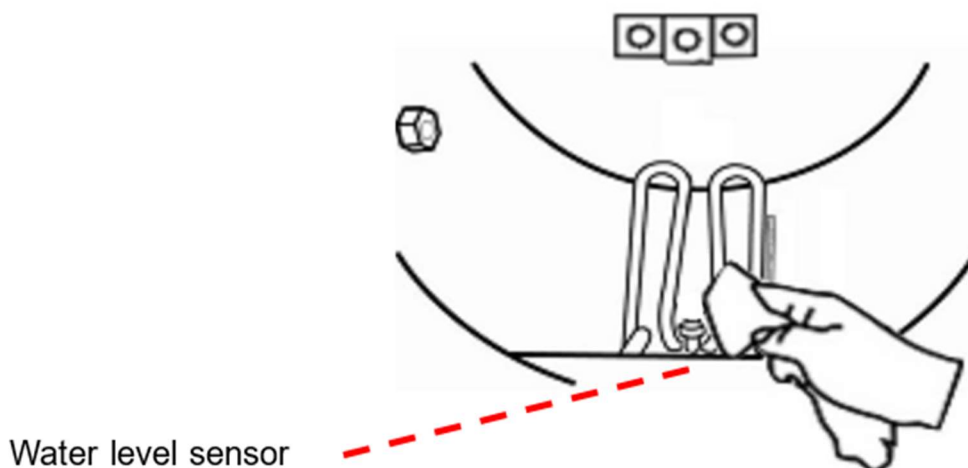

Figure 91
- Use non-corrosive cleaner and a hard brush or sponge to clean the water level sensor in front of the chamber to prevent it from being unable to detect water levels, as shown in Figure 91.